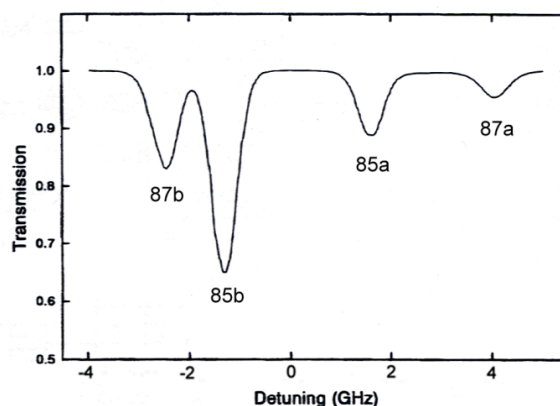
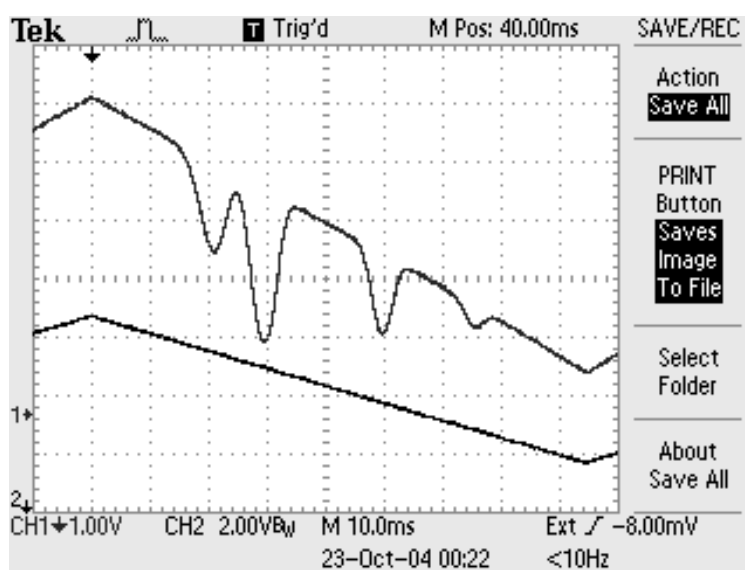

Figure 8: Doppler broadened spectrum
Figure 11: Expanded Scan Showing Four Absorption Lines
2. Turn the ramp generator amplitude up to maximum, and watch what happens when you turn up the current attenuator knob. With some tweaking you should be able to produce a full trace over the Rb spectrum. *The oscilloscope invert function has been used to show the trace in what “looks” more like an absorption spectrum in the Figure 11.* Note the correspondence to the expected atomic Rb spectrum shown in Figure 8